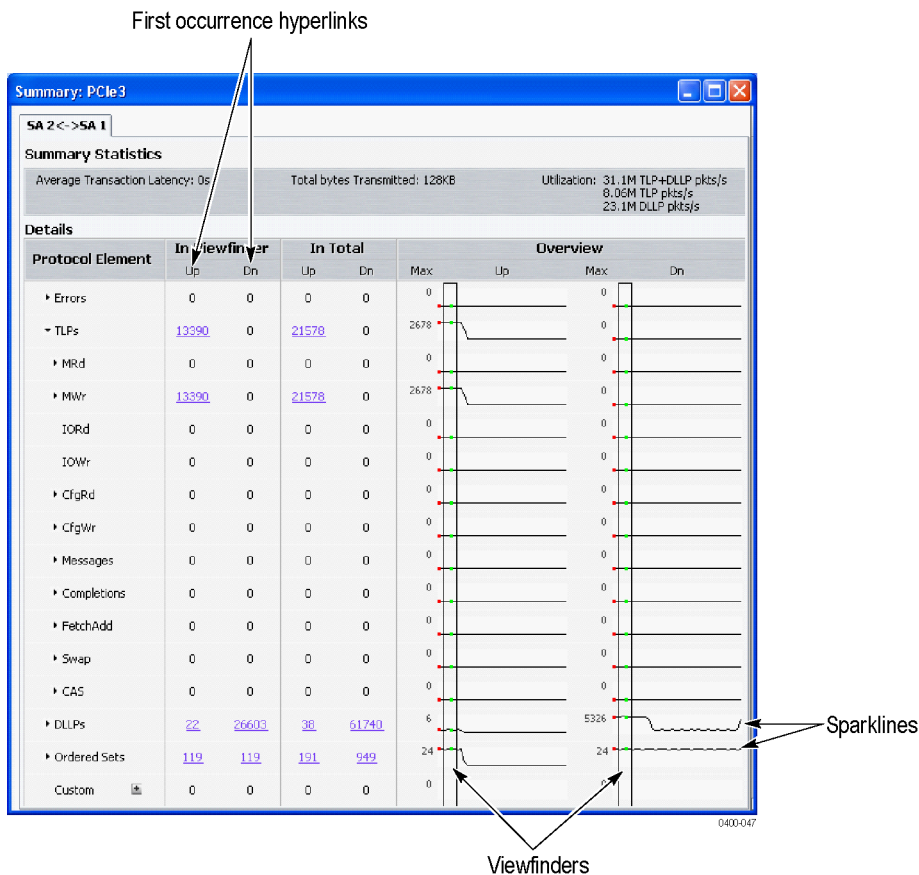

Figure 42: Summary Profile window (Summary Statistics Tab Notebook)
- The In Viewfinder columns list the totals of each element within the Viewfinder regions. Click an item a Viewfinder column to scroll to the first occurrence of the corresponding item in the Transaction window. (See Figure 42.)